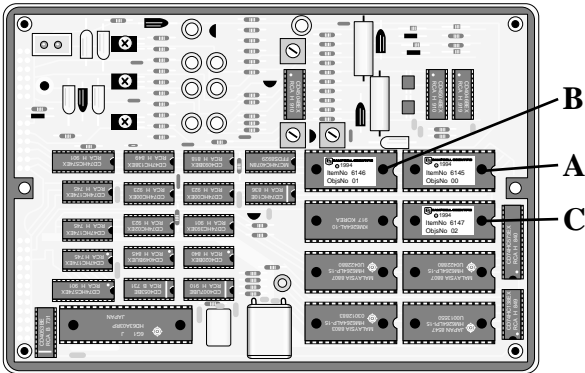

FIGURE 4. Inside the Faceplate
- 10. See Figure 4 and the table below to determine the PROM(s) you want to replace. The installed PROMs all have a notch on the right side. The replacement PROMs must also be installed with the notch on the right.